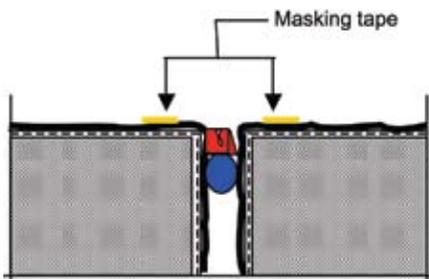

Fig. 2
2. Hold a small piece of the sealant tape so it is centered over the joint that it will span and mark the finish at the edges of the sealant tape. Mask the surfaces immediately adjacent to the marks along the length of the joint (Fig. 2).